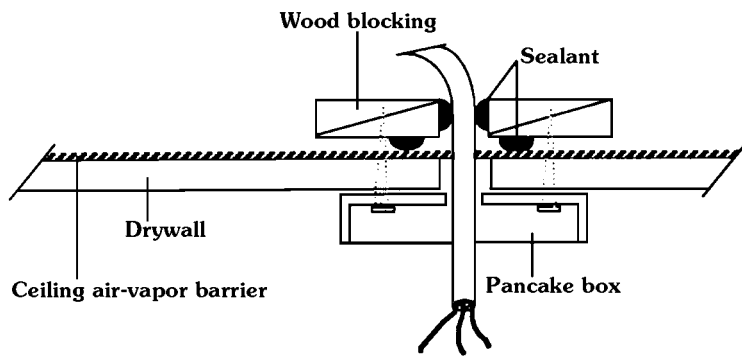

Figure 7.13: Shallow “pancake” electrical box in ceiling
- Using a pancake surface-mounted electrical box (Figure 7.13).